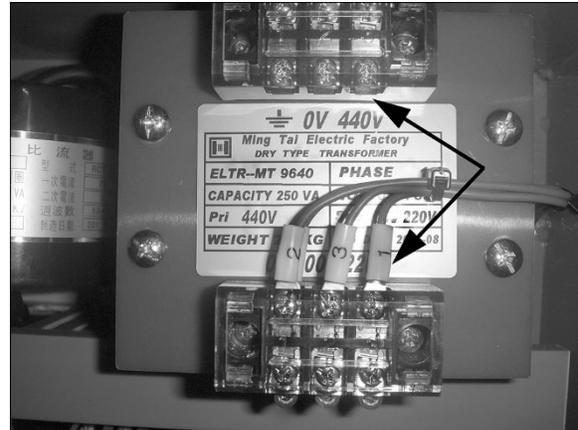

Figure 6
2. In the electrical cabinet, switch the #1 wire on the transformer from the 220V to the 440V terminal. See Figure 6. (Refer to the wiring diagram on the inside cover of the electrical box for clarification.)